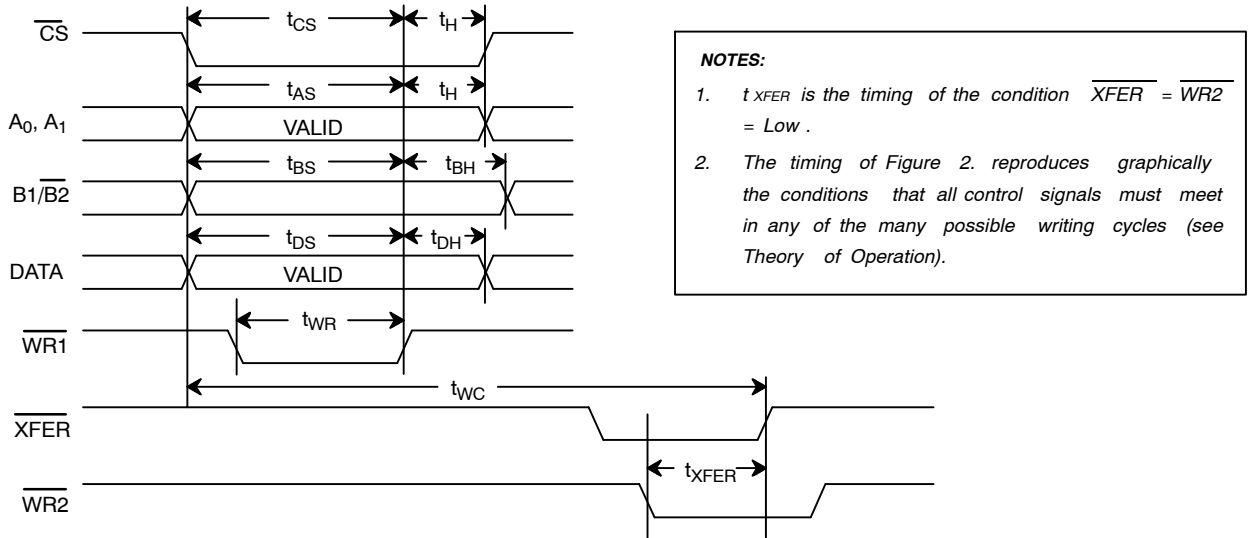

Figure 2. Write Cycle Timing (Each DAC)
- ³ See timing diagram (Figure 2).